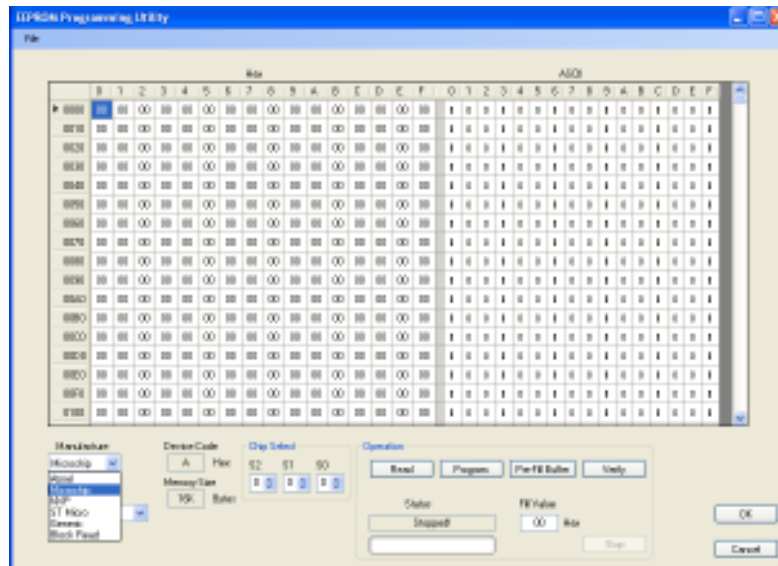

Figure 8. EEPROM Programming Utility window
3. Verify that the EEPROM Programming Utility window is now displayed (See Figure 8)